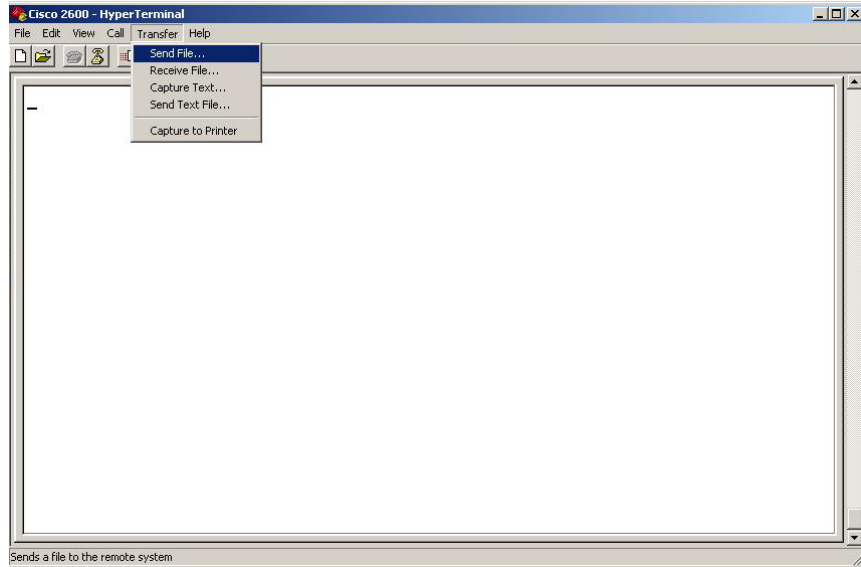

Figure 2-60: Send File Menu Command
17. Use HyperTerminal to transfer the supplied configuration file by selecting **Transfer>Send File**, as shown in Figure 2-60.